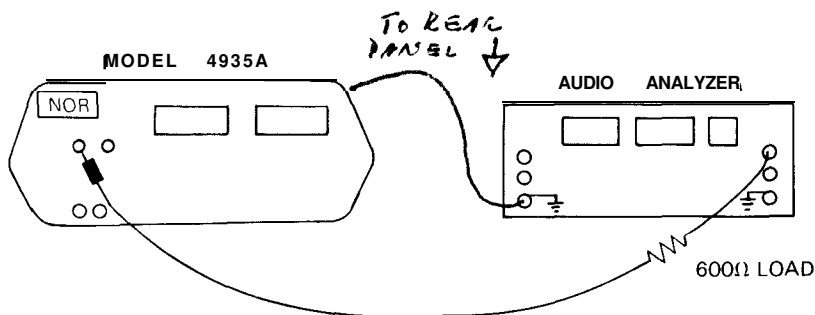

Figure 4-11. Distortion Test
1. Connect equipment as shown in Figure 4-11.